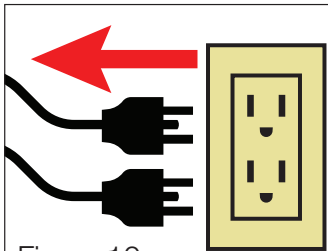

Figure 10
- All loads must be disconnected from the generator. Never start or stop the engine with any electrical devices plugged in to the receptacles (Fig. 10).